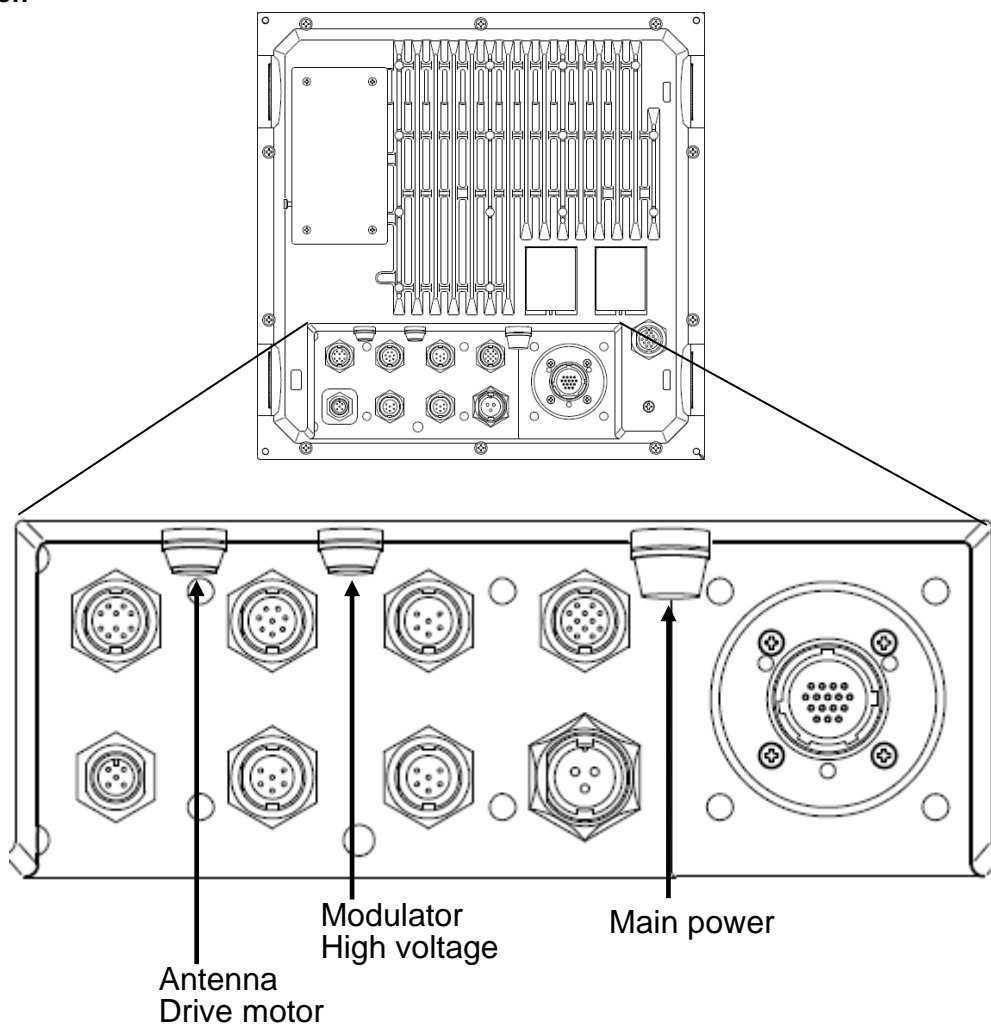

Figure 5.3 Fuse locations on Processor unit back panel
1. Turn off the radar and remove the Antenna drive motor fuse according to Figure 5.3.